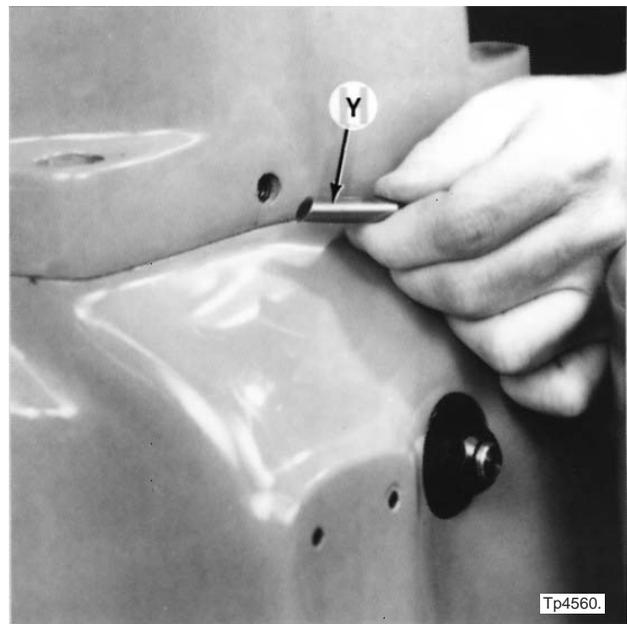

Figure 6.13 - Headstock Locking Plug
32. Remove locking plug "Y", Figure 6.13 .
22. Replace locking plug "Y", Figure 6.13 .